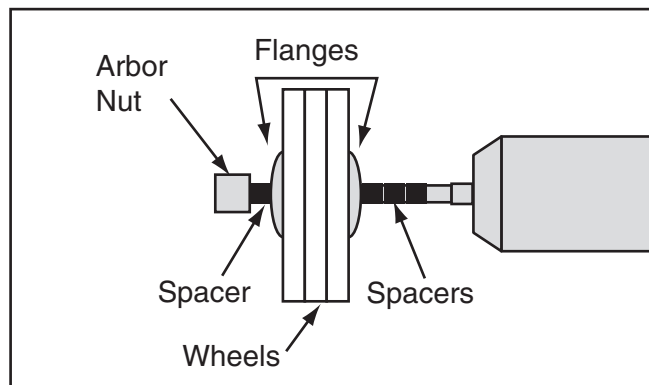

Figure 14. Stacking multiple wheels without steel centers.
2. Sandwich a single solid body buffing wheel or multiple wheels—such as the muslin or sisal types shown on **Page 23**, between a pair of wheel flanges, as shown in **Figure 14.**